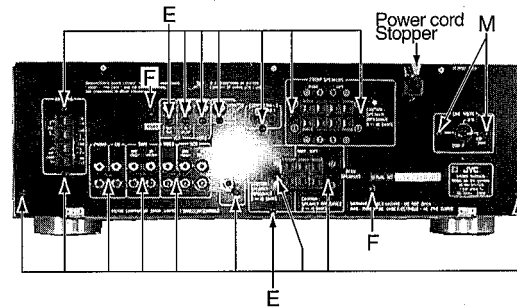

Fig.4
2. Remove 18 screws E and 2 screws F (Fig.4)